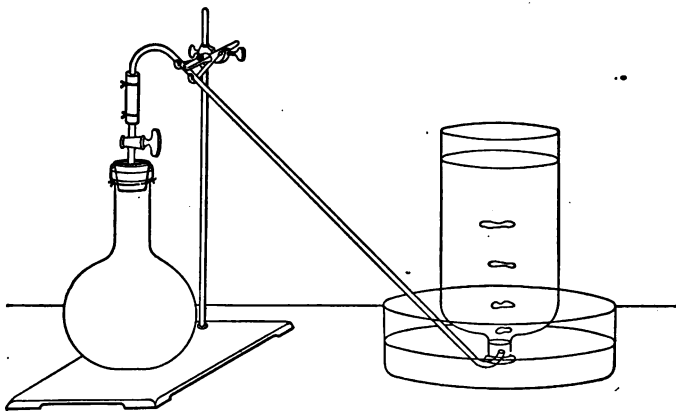

FIG. 22.
M. Yes; I connect the delivery-tube from the oxygen apparatus, with the aid of a little india-rubber tubing, onto the stop-cock, put a flask filled with water over the end, and now, if I open the stop-cock, the air which I pumped in will come out, and collect in the flask (Fig. 22). If you